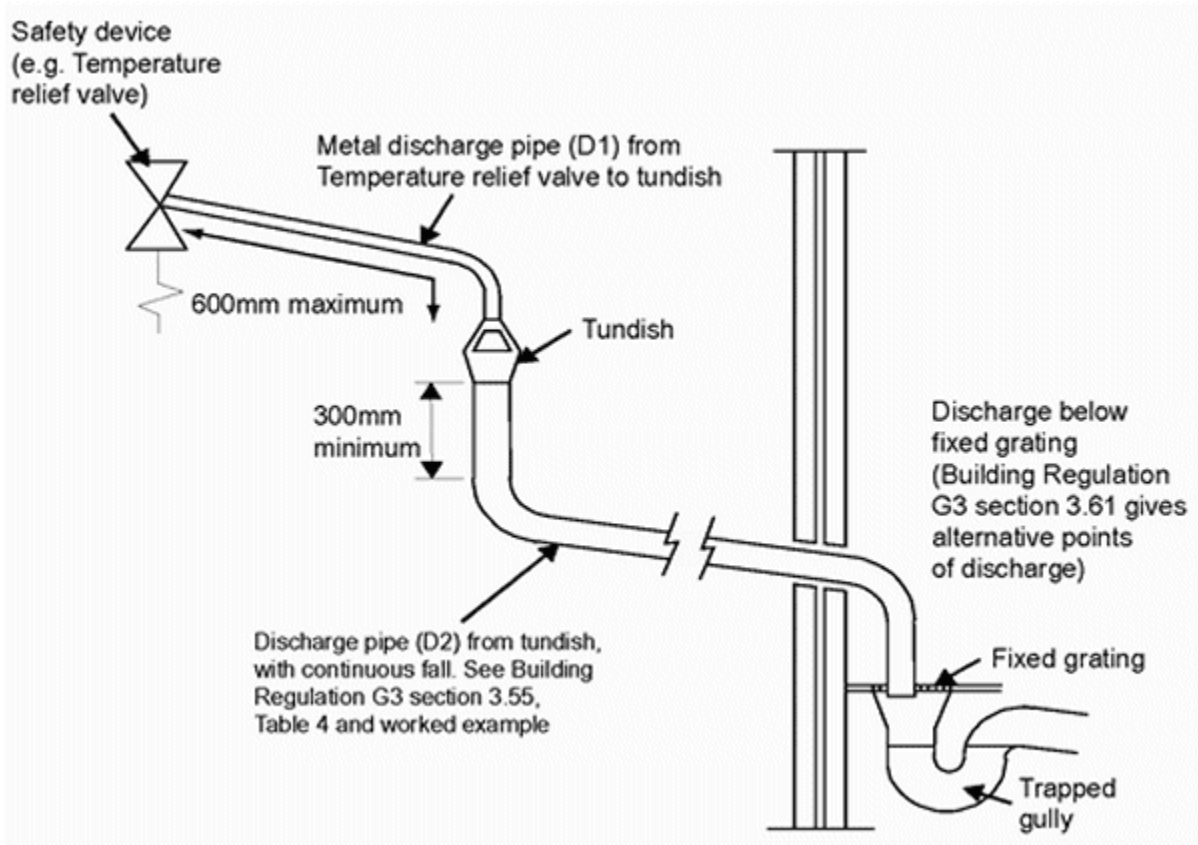

Fig.5: Typical discharge pipe arrangement (extract from Building Regulation G3 Guidance section)
3.54 The tundish should be vertical, located in the same space as the unvented hot water storage system and be fitted as close as possible to, and lower than, the valve, with no more than 600mm of pipe between the valve outlet and the tundish (see Figure 5).
3.58 The discharge pipe (D2) should be at least one pipe size larger than the nominal outlet size of the safety device unless its total equivalent hydraulic resistance exceeds that of a straight pipe 9m long, i.e. for discharge pipes between 9m and 18m the equivalent resistance length should be at least two sizes larger than the nominal outlet size of the safety device; between 18 and 27m at least 3 sizes larger, and so on; bends must be taken into account in calculating the flow resistance. See Figure 5, Table 3 and the worked example.